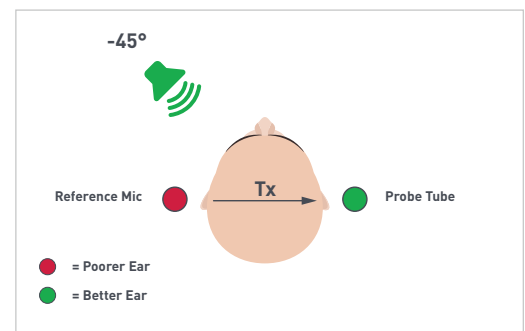

Figure 2
**Step Two:** Measure the REUR with sound directed towards the poorer ear: [Fig. 2]